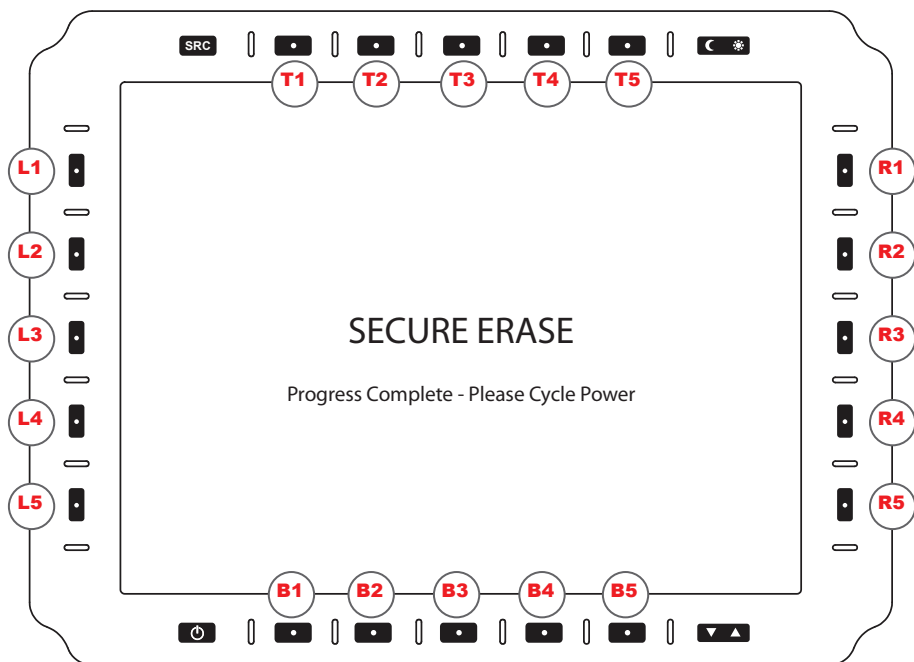

Figure 18. SE Progress Complete. Please cycle power.
PLAY (L1). Displays PLAY if Video is selected to view. Press to start selected file playback. See submenu Video Playback (Figure 18).
- When SE is complete, screen reads 'Secure Erase Progress Complete; Please Cycle Power' which means 'Reboot the unit' (Figure 18)